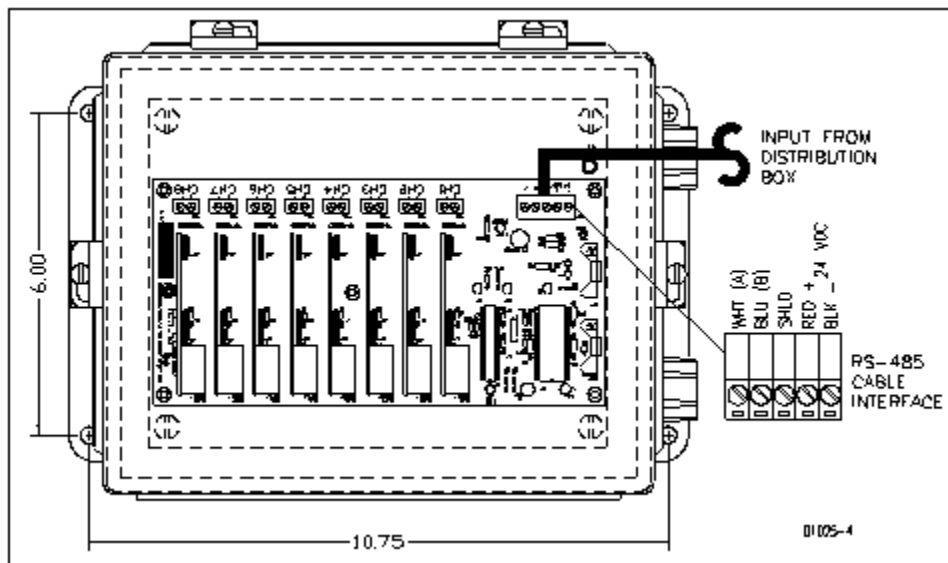
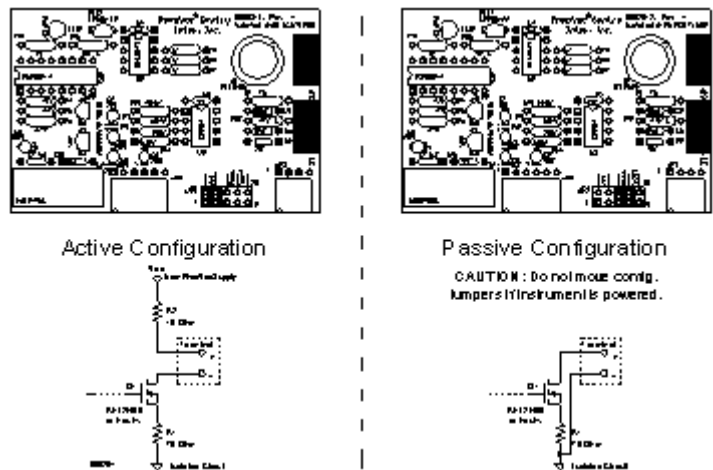

Figure 9 Optional Transmitter Box
Figure 8 4-20 mA Output Circuit
C. Transmitter Box (optional, See Figure 8) - For driving eight (8) remote 4-20 mA analog signals from one RS-485 input port. *Note: Intek recommends using the network connection for all data transmissions and RheoVac communications.*
2. Connect up to eight (8) signal wire pairs to the indicated terminals for isolated 4-20mA outputs.
3. Figure 8 provides the *RheoVac DR* wiring detail for the 8 channel 4-20 mA outputs. Table II provides the appropriate connection identification. Transmitters are configured as active (transmitter sources the current) when shipped. To change to the passive mode (receiver to source the current), extract each small 4-20 board, find the JP1 pins, and move the two jumpers from the "Act" pins to the "Pass" pins (two positions to the right of factory settings). Figure 9 shows the current output circuit. The figure also illustrates the active mode and the passive mode configurations.